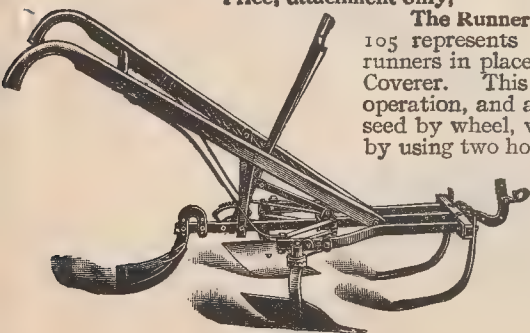

Fig. 105
**The Runner Attachment** as shown in Fig. 105 represents the "IRON AGE" with steel runners in place of wheel, while being used as Coverer. This arrangement is steadier in operation, and avoids all danger of displacing seed by wheel, which danger is still lessened by using two horses. **Price, attachment only.**